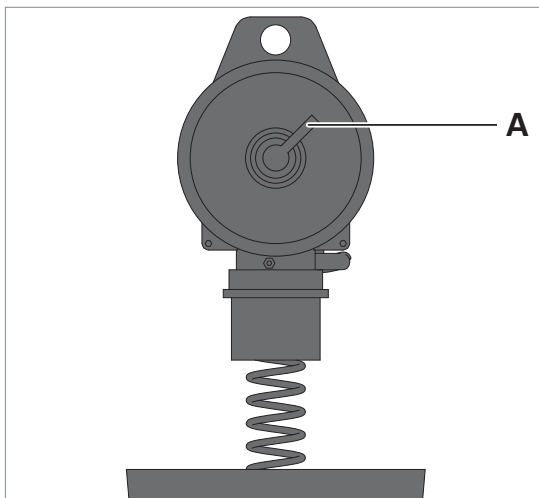

Fig. 10: Setting the spring force of the rise-and-fall pendants.
- ▶ Set the spring force of the rise-and-fall pendants at the rotary handle **A** of the cable reel to such a value that the luminaire can be easily height-adjusted, see Fig. 10.